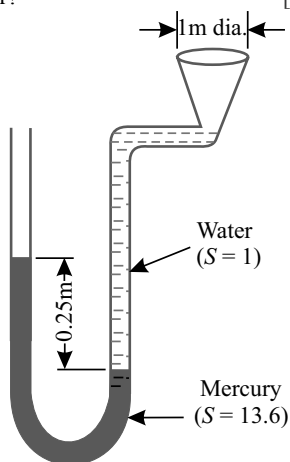

Fig. 2.49
16. Fig. 2.49 shows a glass funnel fitted to a U-type manometer. The manometer reading is 0.25 m when the funnel is empty. What is the manometer reading when the funnel is completely filled with water? [Ans. 0.4 m]